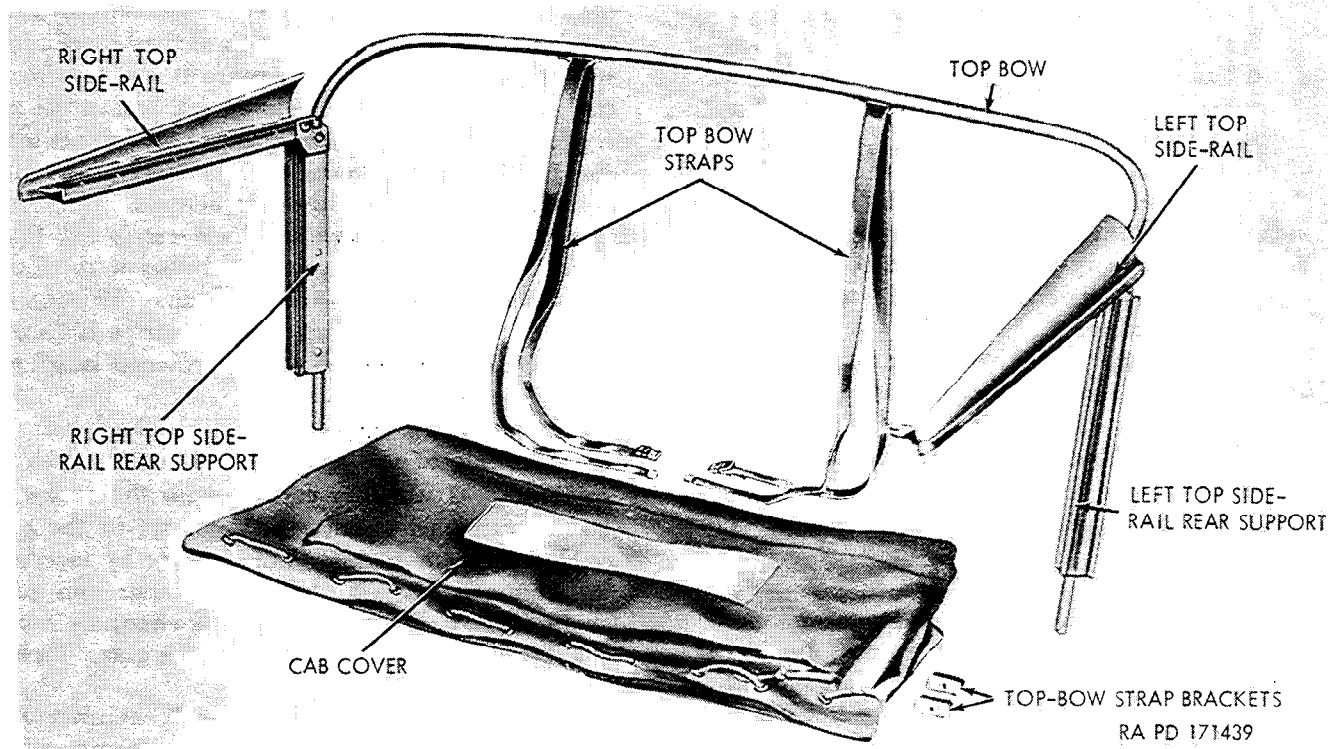

Figure 3-9. Items removed before installation of hardtop closure.
c. Remove Cab Cover (fig. 3-9). Untie the lashing ropes from the lashing hooks on the back of the cab. Disconnect the cover at the sides by pulling it away from the side rails until the metal retainers are disengaged from the slots in the side rails. Disconnect the two straps from the rear top bow to the top-holding brackets on the windshield frame, and pull the rear portion of the cab cover up and out of the metal retainers on the rear supports. Fold the cab cover forward and pull it from the right side of the vehicle until the cover is disengaged from the metal retainer on the front of the windshield top support rail.
d. Remove Top Side Rails (fig. 3-9). Remove the capscrews from the front and rear of the right and left top side rails. Lift the side rails from the vehicle and discard them.
e. Remove Top-Bow Strap Brackets (fig. 3-9). Remove the capscrew and lockwasher which secure each of the brackets to the windshield. Remove the two brackets.
f. Remove Top Bow (fig. 3-9). Lift up on the top bow, disengaging it from each of the top side-rail rear supports.